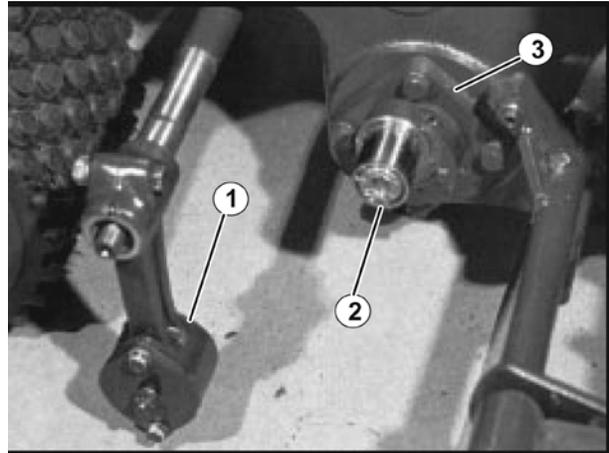

FIGURE 6
10. Loosen the clamp screw on the pitman arm 1 and the clamp screw on eccentric assembly 2. Remove from shafts. (Figure 6)